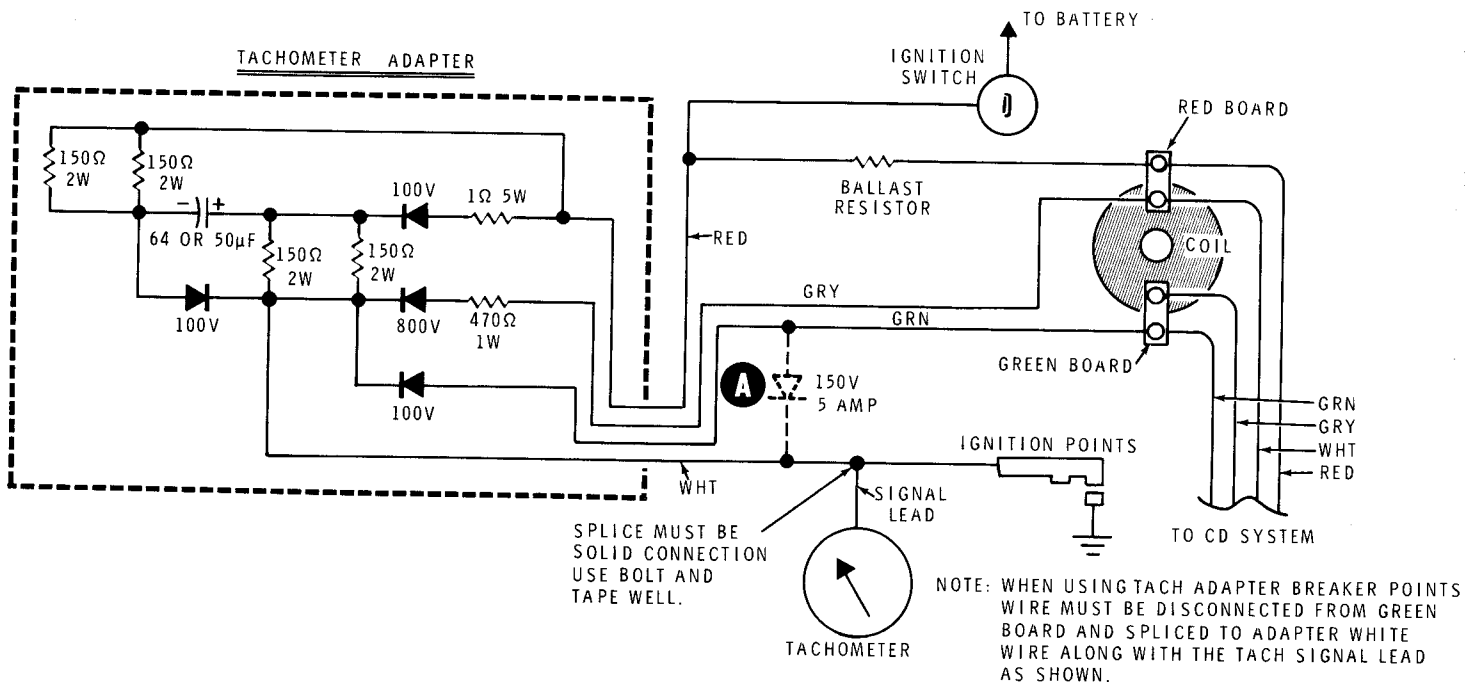

Figure 8
Reliable operation of these tachometers can only be insured if the adapter circuit shown in Figure 8 is used. An assembled adapter (Model TA-200) can be ordered from Delta Products*.
1. Install a diode (5 ampere, 150 V or higher) at A. See the dotted line in Figure 8.
2. Or, place a jumper wire in place of the diode at A in Figure 8.